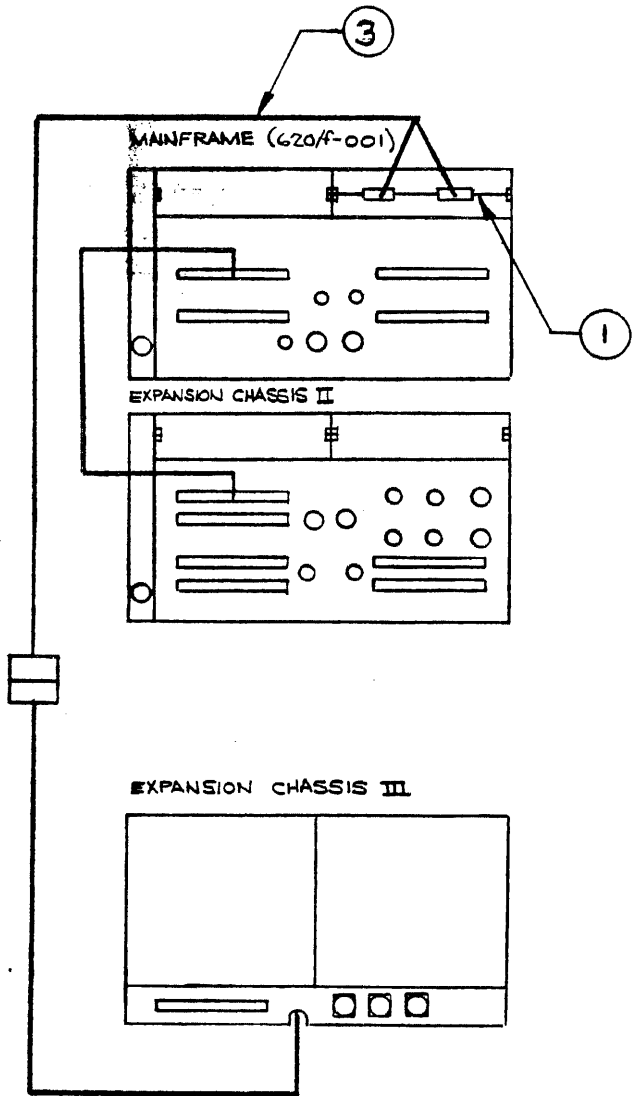

FIGURE 1
3. FOR TYPICAL INSTALLATION INTO A G20/f SEE FIGURES 1 OR 2